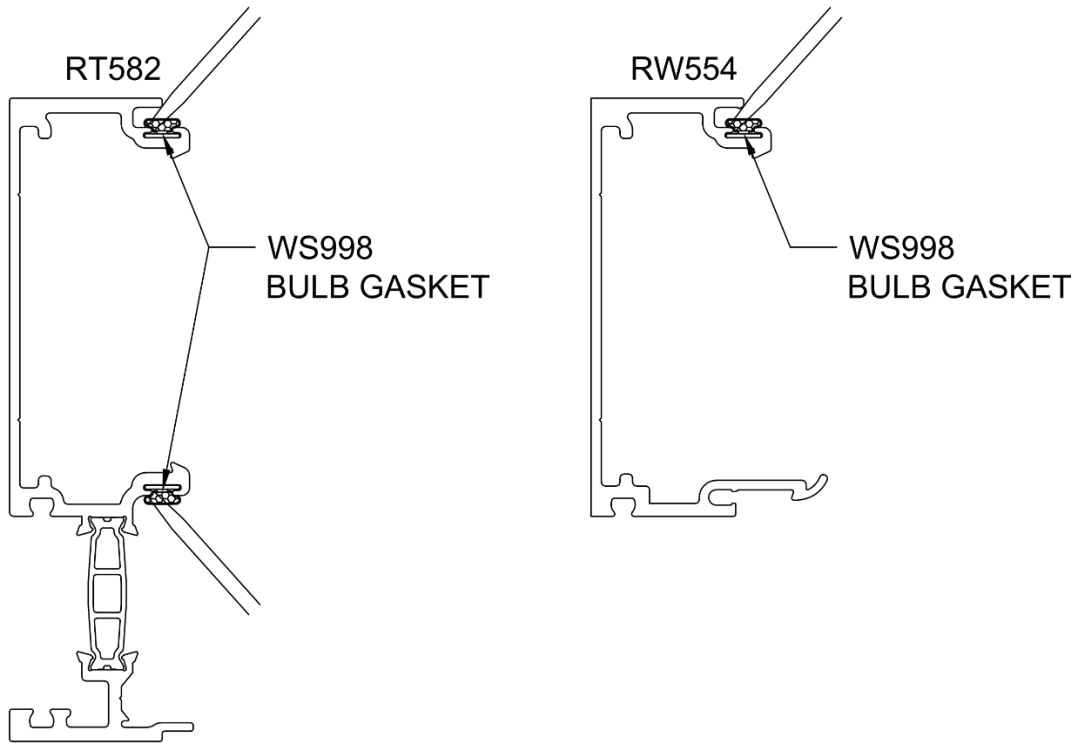

Figure 28: Gasket Installation into Male-Half of Split Mullions
- 12.1.3 Insert **WS998** Bulb Gasket into male half of split mullion and stake in place at each end as shown in *Figure 28*.